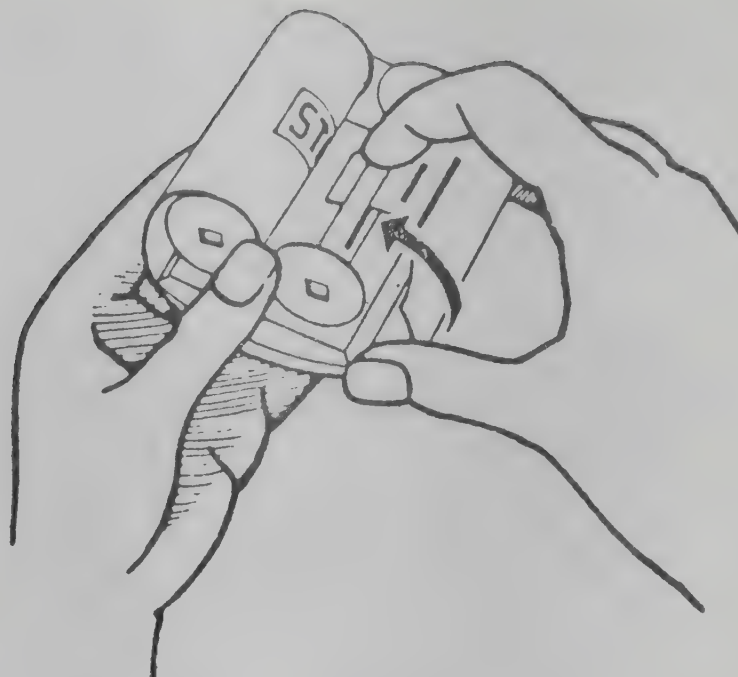

FIG. 6
When temperature of the solution cannot be brought exactly to 20°C, duration of the film in developer should be adjusted. Diagram under 4.5 (Fig.6) indicates the adjustment in developing time required for film which gives satisfactorily results with 6 minutes development at 20°C. If the solution used in D.T.C. is one which require higher or lower developing time at 20°C, corresponding correct developing time for higher or lower temperatures with such a solution can be found as shown in the following example:
On the time temperature graph (Fig.6) locate the point 8 mts on 20°C horizontal line. Draw a line parallel to time temperature line of 6 mts (slanting line at 8 mts. point as shown in the diagram. Locate point of inter section of 22°C horizontal line to the 8 mts. line now drawn and drop vertical line parallel to the time line till it meets either the top or bottom horizontal lines. Reading of the time. In the example shown it is 6 1/2 mts.
In para 4.5 Fig. 6, Time Temperature Chart is given. The line 'A' of chart indicates how the time of processing the film is to be adjusted when temperature is different from 20°C. The line 'A' is for a developer whose correct processing time for the film in use is 6 mts. It may be necessary to
Example: When solution temperature is 22°C trace the line 'B' to the point where it crosses 22°C horizontal lines. At junction point draw vertical line (dotted line Fig. 6) and ascertain the developing time.
- Step 2 — Keep a piece of wet absorbent cotton (Approx.80 mm wide) as shown in Fig.6.